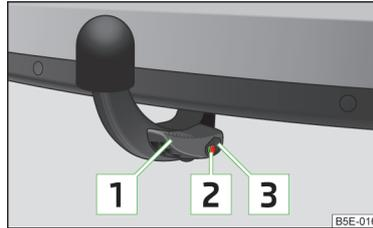

Fig. 158
Correctly secured ball head » Fig. 158
- ✓ Lever **1** is up as far as it will go » Fig. 158.